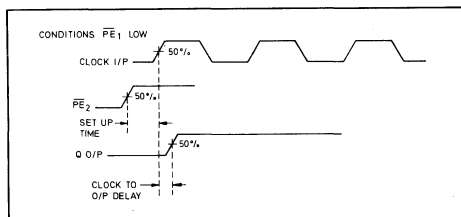

Fig. 3 Set-up timing diagram
- Set-up time is defined as the minimum time that can elapse between a L \rightarrow H transition of a control input and the next L \rightarrow H clock pulse transition to ensure that the \div 8 mode is forced by that clock pulse (see Fig. 3).